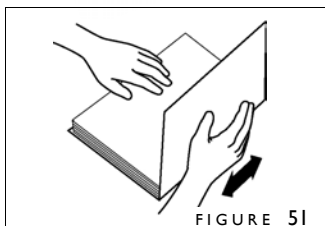

FIGURE 51
7. Fold the back cover up tight against the book block spine end (figure 51). Rub back and forth to bind the cover to the adhesive beneath it.